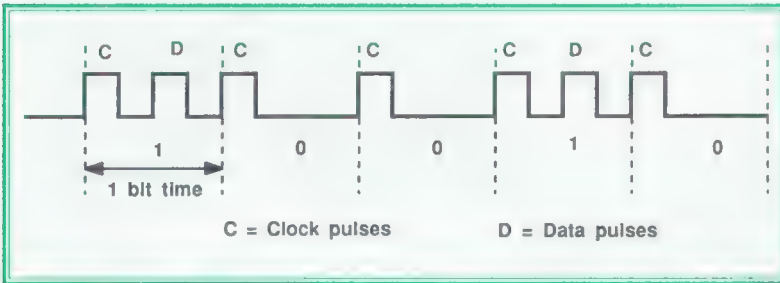

Figure 1. Data format for the value 10010 stored using FM
To get around this problem, two bits are recorded on the disc for each bit of data. The first bit is always a logic 1, and is called the *clock bit*. The second is the actual data bit. The bit pattern written to disc for the bits 10010 is shown in figure 1. The disc controller can synchronise itself to the clock pulses, and in this way cope with speed variations of up to several percent. This recording system is known as *Frequency Modulation (FM)*.
While FM provides a solution, it is wasteful in that a clock bit is required for each bit. There is, however, a simple way of reducing this requirement. Referring to figure 1, it can be seen that when the data bits are ones, they could be used to synchronise the reading. With this in mind, it is only necessary to record a